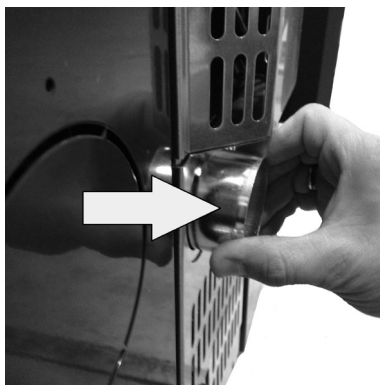

Fig. 13 - Phase 2
- Pull out the tube for 2 cm (see **Fig. 13**).